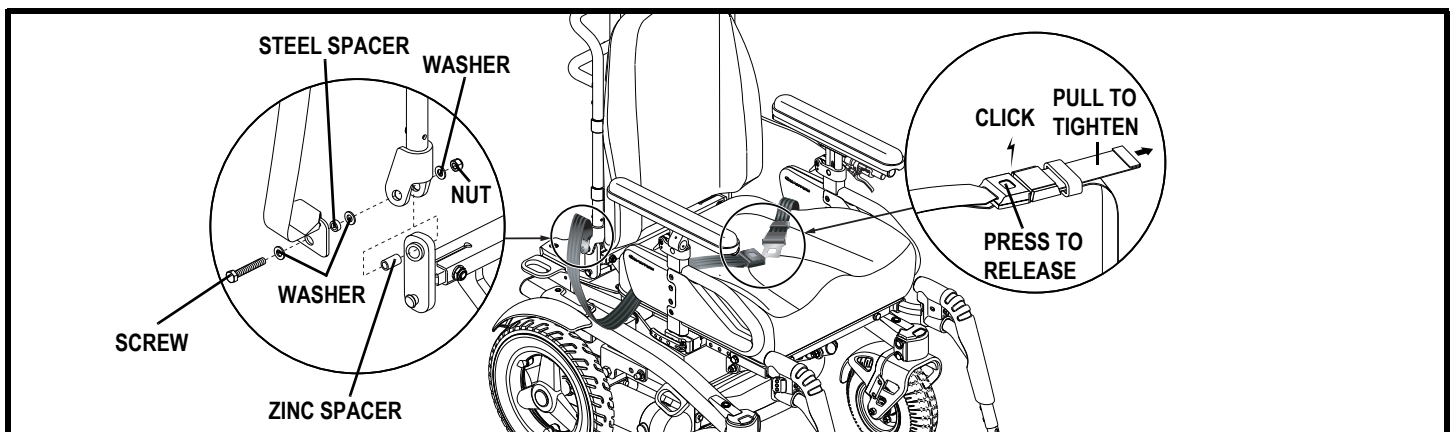

Figure 23. Positioning Belt Installation and Adjustment
Your power chair may be equipped with a positioning belt that can be adjusted for operator comfort. See figure 23. The positioning belt is designed to support the operator so that he/she does not slide down or forward in the seat. The positioning belt is not designed for use as a restraining device.
1. Insert the screw through the washer and the mounting tab at the end of the positioning belt. See figure 23.